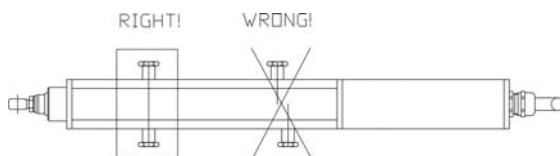
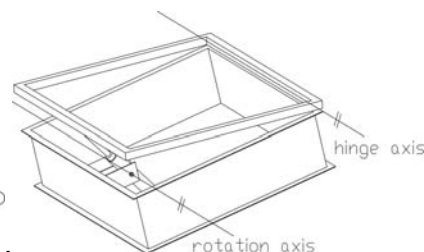

Fig. 1
Fig. 2
- In the case of actuators with variable mounting (lateral guide grooves) be sure the bearing pins/plugs are in line with each other (see fig. 1) and also parallel to the axis of the hinges. Furthermore, when mounting the bracket, be sure the swivelling axis of the actuators is parallel to the axis of the hinges (see fig. 2).